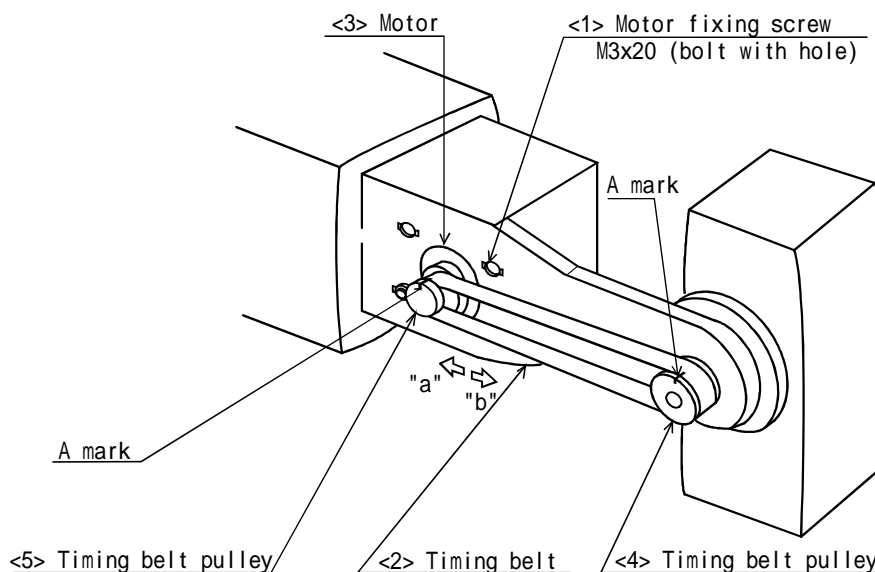

Fig.5-6 : Inspection, maintenance and replacement of J5-axis timing belt
- 1) Fig. 5-6 shows the methods for inspecting, adjusting and replacing the timing belt.
- 4) Make marks on the timing belt <2> and timing pulleys <4> and <5> with a felt-tip pen as shown in Fig. 5-6 so that the engagement of the timing belt <2> and timing pulleys <4> and <5> does not deviate.